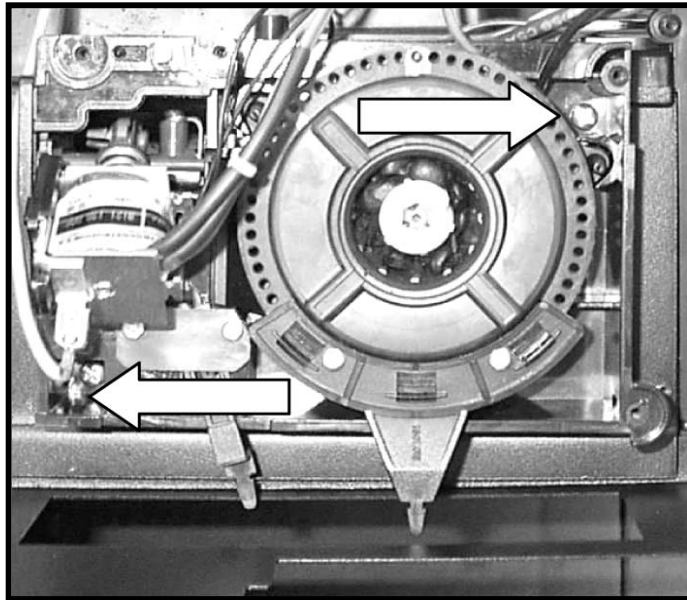

Figure 5-33: Grinder Retaining Screws
18. Refer to Figures 5-33 and 5-34.